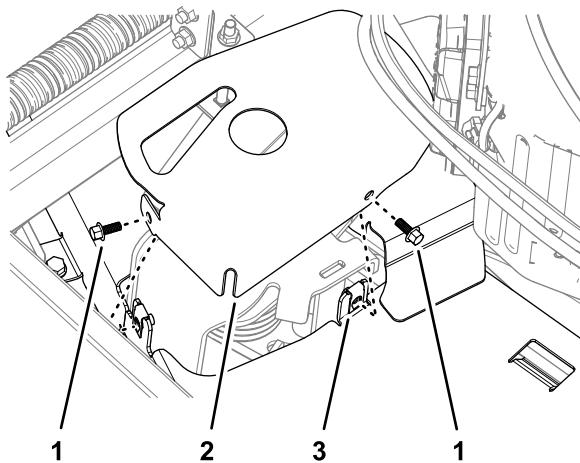

Figure 45
4. Assemble the tensioner cover to the left belt cover with the 2 flange-head screws that you removed in Removing the Left Belt Cover (page 26), as shown in Figure 45.